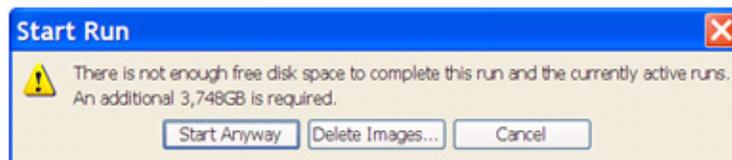

Figure 55 This Start Run dialog appears if there is not enough room to store data for the run.
3. If there is not enough room to store the data for the run then the Start Run dialog box displays (see Figure 55). Choose the appropriate option (see Table 11).